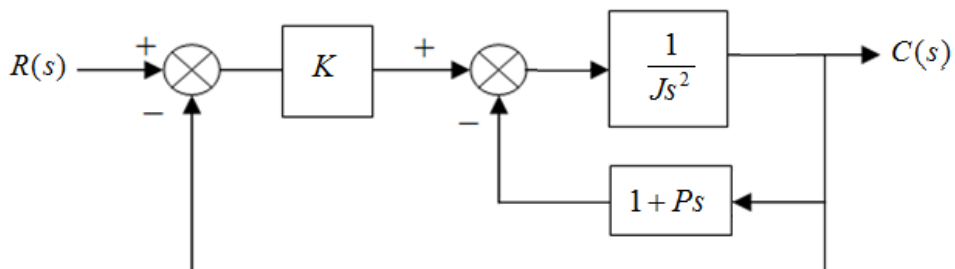

Figure 3: The block diagram of a system
- (b) **Figure 3** shows a block diagram of a unity feedback system. Answer the following questions: